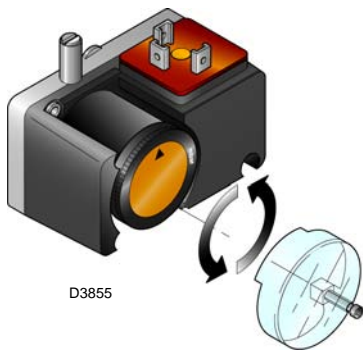

Fig. 21
- Adjust the minimum gas pressure switch to the start of the scale (Fig. 21).